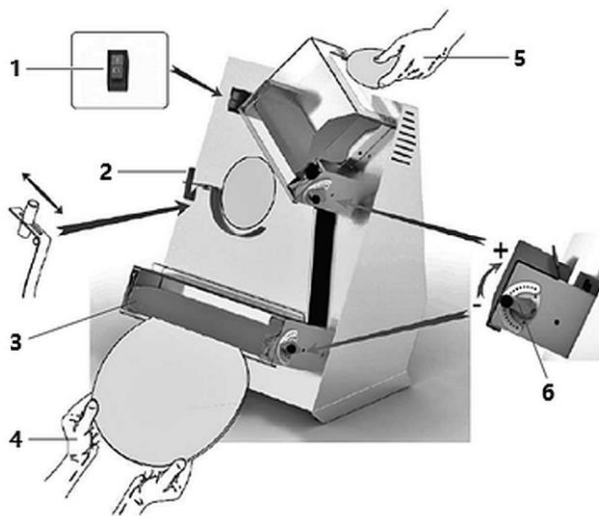

Fig. 7
1. With the appropriate lever (6, Fig. 7) adjust the spacing between the top and bottom roller pairs depending on the thickness of semi-finished dough.